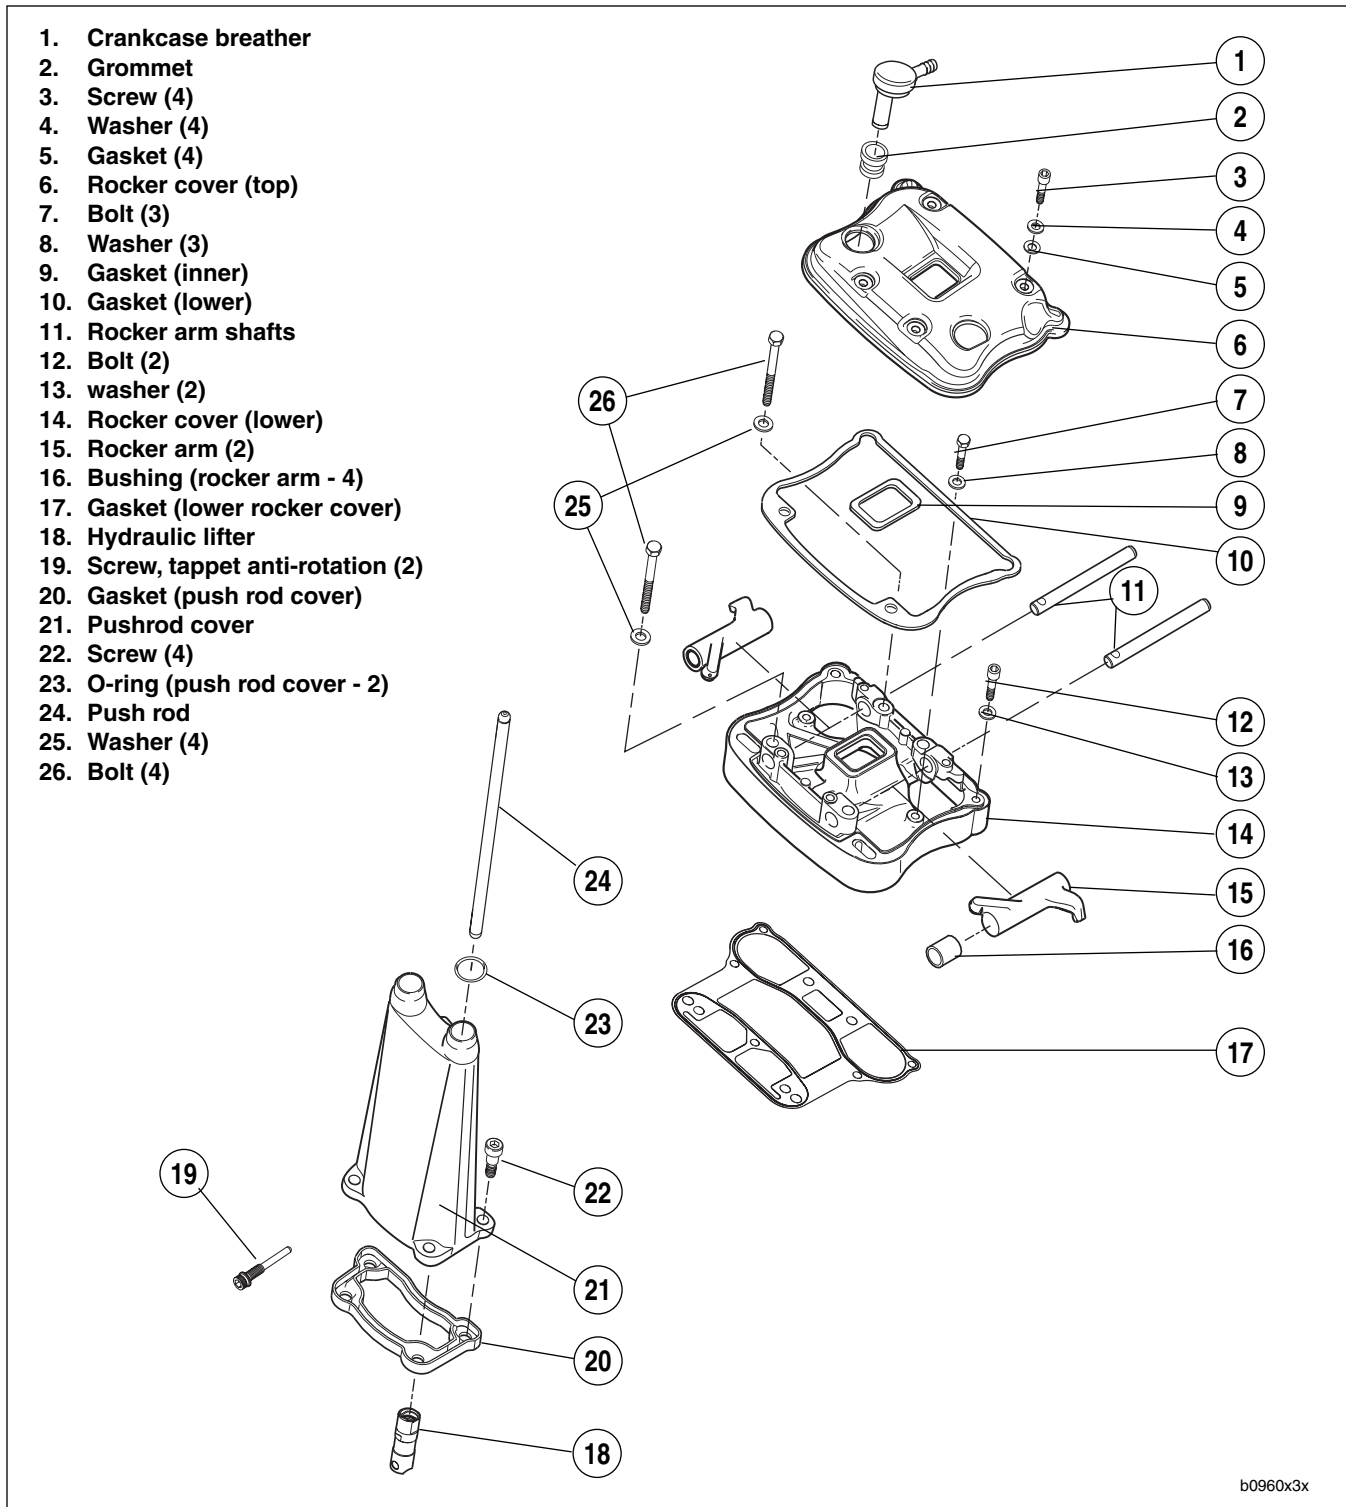

Figure 3-57. Rocker Arm and Pushrod Cover Assemblies
2. See Figure 3-57. Remove screws with washers and fiber cover seals. Discard fiber seals.
- a. Remove two screws and washers (1).
- b. Remove three bolts and washers (2).
- c. Loosen the four rocker arm fasteners (3) in 1/4-1/2 turn increments using a cross pattern in order to relieve valve spring pressure on the lower rocker box.
7. See Figure 3-57. Remove lower rocker cover.
13. See Figure 3-57. Remove push rod cover, gasket and valve tappets.